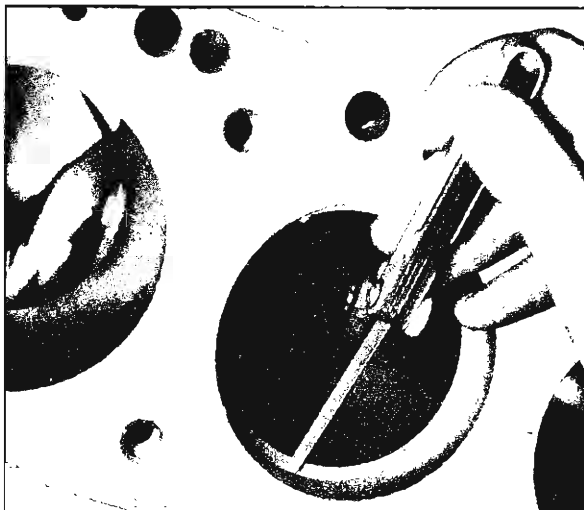

Fig. 60—Checking Ring Gap
3. Check the space or gap between the ends of the ring with a feeler gauge (fig. 60).
12. The compression rings should be fitted so that the clearance is .0012" to .0032" (fig. 60) for new parts and up to .005" allowable wear limit.